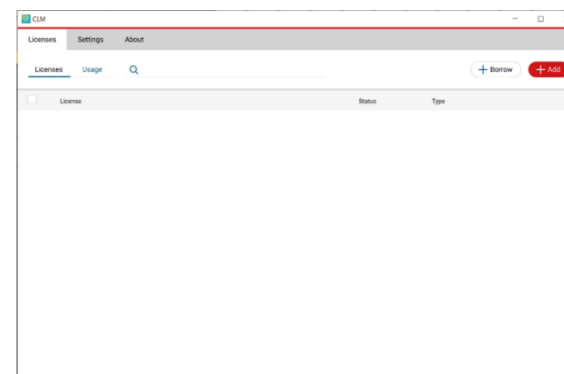

Fig. 1 CLM user interface
1. Start CLM through the icon , the window of Fig. 1 shall appear,